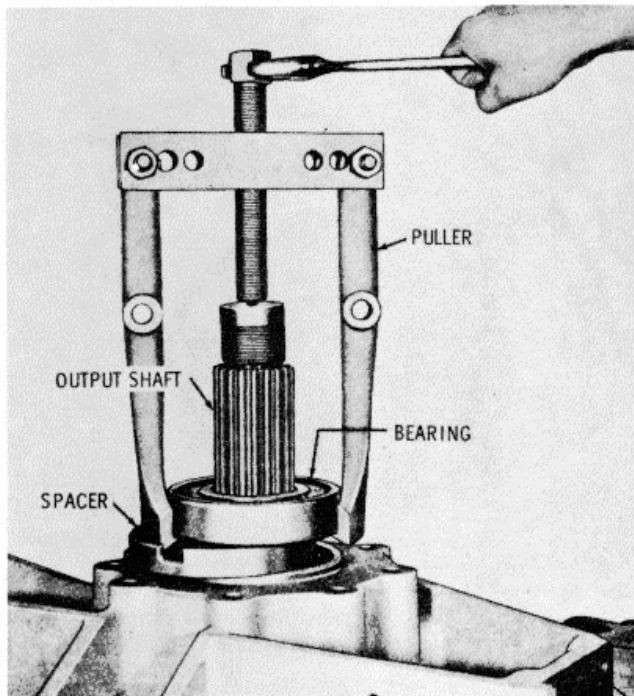

Figure 15-66. Removing Bearing from Output Shaft
3. Remove bolts 12 (A, Foldout 12) and lockwashers 11 from bearing retainer assembly 13 and remove the bearing retainer. Remove and discard gasket 7. Using a bearing puller, remove bearing 10 (Figure 15-66). Remove speedometer cover 31, gasket 28 and speedometer drive gear 24. If necessary, press gear 26 from gear 25.